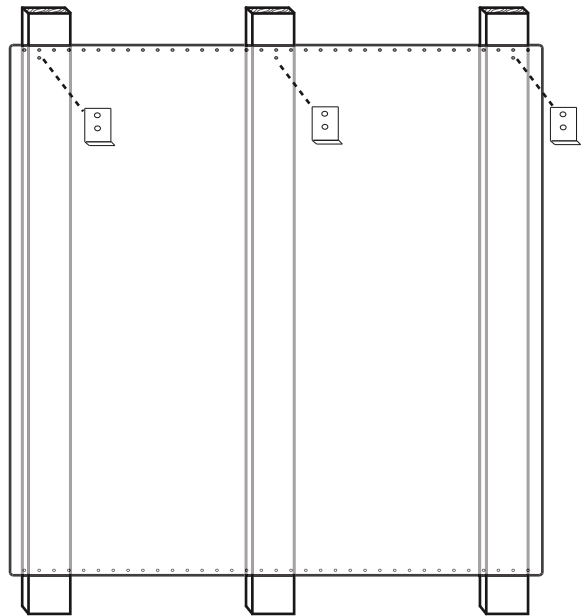

Figure 13: Backsplash with a Keep Hot Shelf
3. At the locations indicated in *Figure 13*, mount the lower shelf brackets included with the Keep Hot Shelf through the Backsplash and into the wall studs.